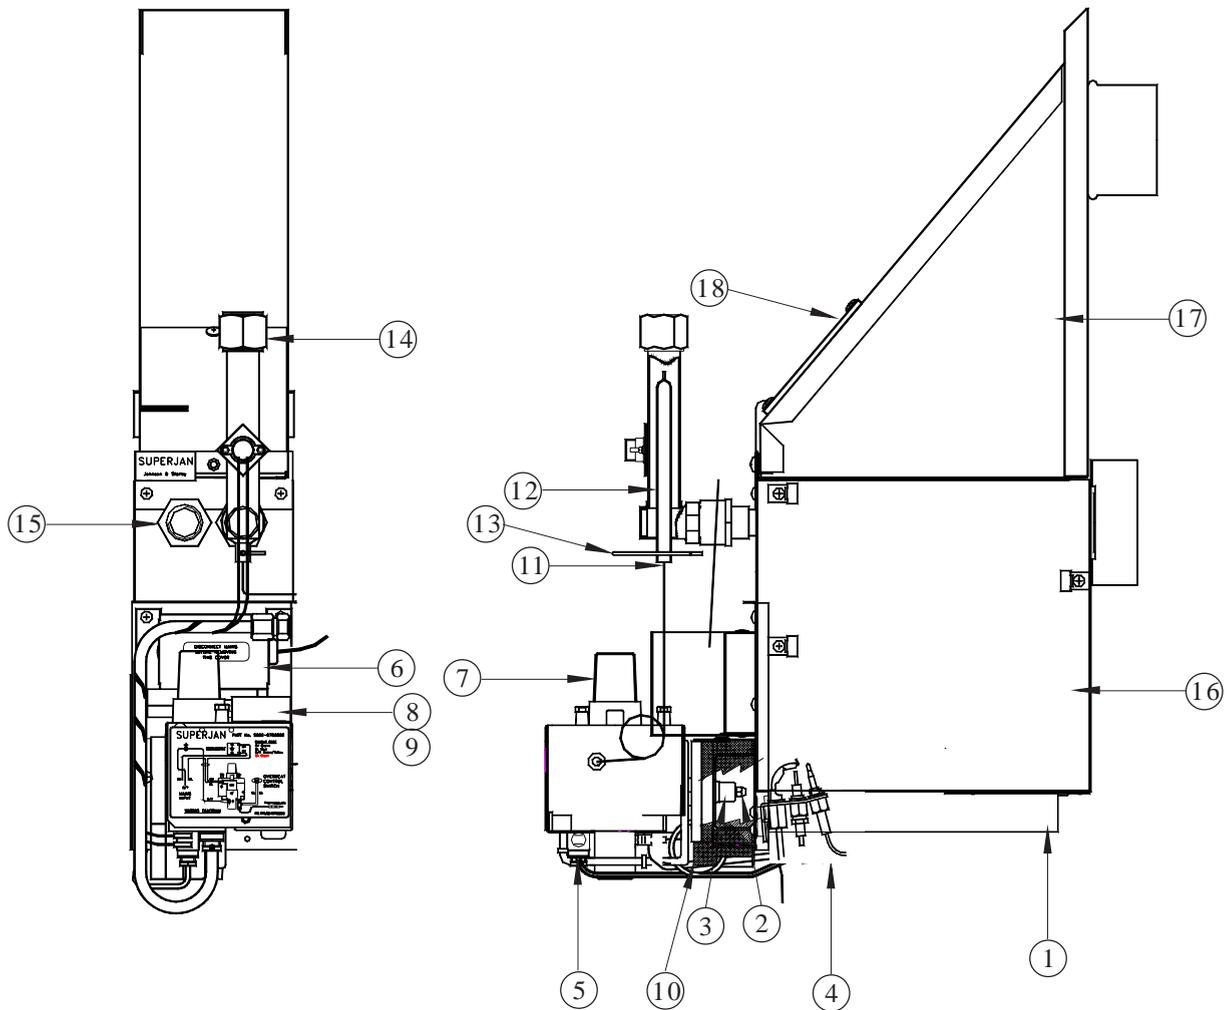

Fig. 7
- b. Ensure that the sweep baffle is correctly located beneath the secondary outlet at the rear of the air heater, and that the flue hood locates positively into the mouth of the flue pipe (refer to Fig. 7).